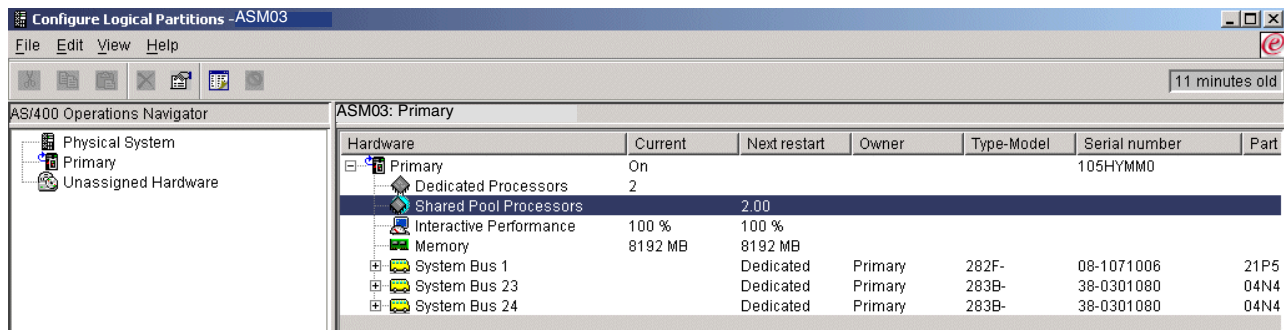

Figure 4-4 Both processors now in the Shared Processor Pool
- After a short delay, this brings you back at the Configure Logical Partitions window (Figure 4-4). If you look in the details pane, the change to the processors is evident in the Next Restart column. In the row Shared Processors Pool, the processing arrangement will be 2.00 shared after the next restart.